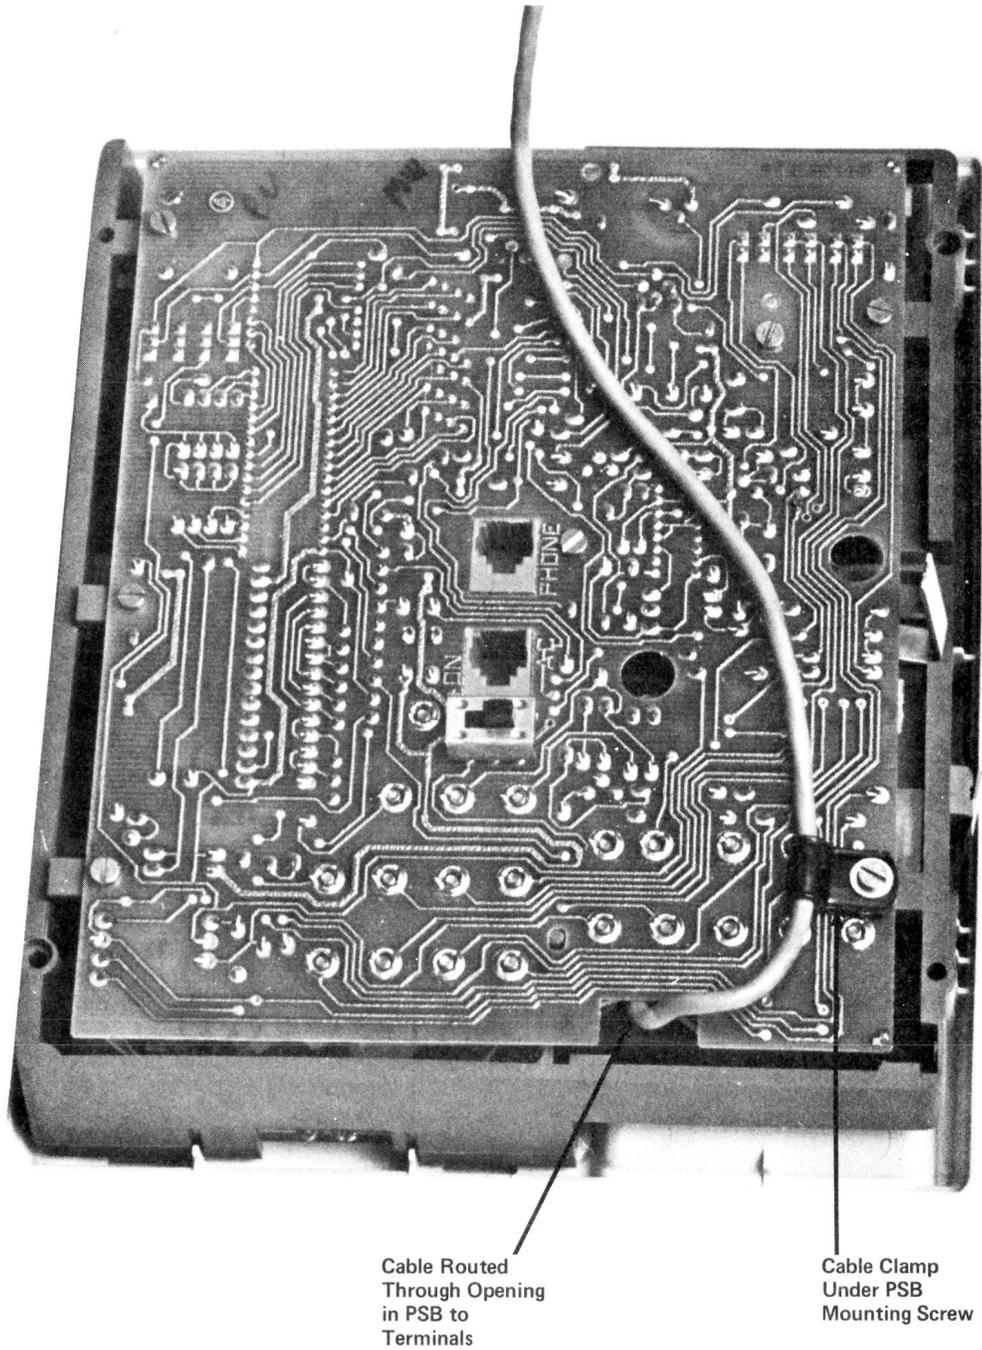

Figure 16, TOUCH-A-MATIC Telephone Interface Cable Routing
- Route interface cable to TOUCH-A-MATIC® telephones per Figure 16 and Table F.
4.	Route interface cable (spade lug end in first) through rear mounting cord knockout in lower housing. Route cable through opening in power supply board as shown in Figure 16.
6.	Make the connections as defined in Table D. The splice is to be made using the snap-on insulator provided under the power supply board. The cable is then to be secured using the cable clamp provided as shown in Figure 16.